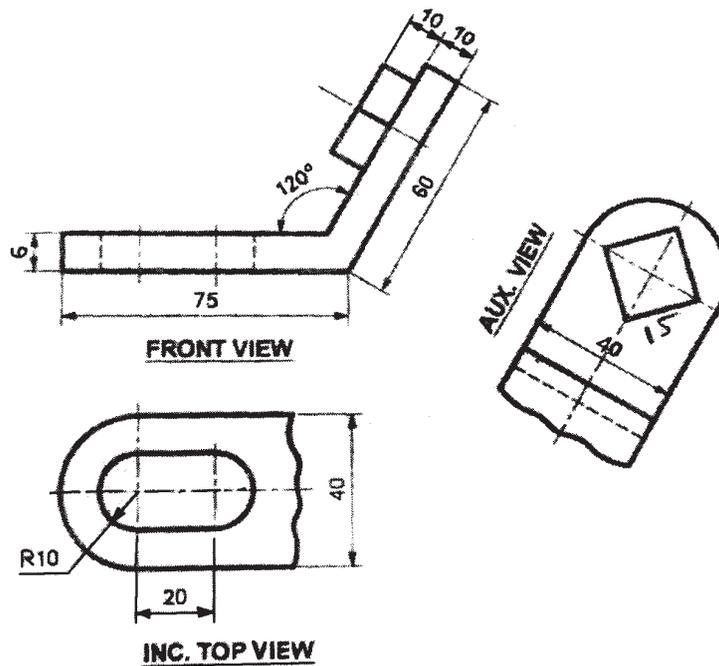

Fig. No. 4
3. a) Figure No. 4 shows the F.V. and incomplete T.V. and part Auxiliary view of an object. Redraw given view and complete the Top View. 8